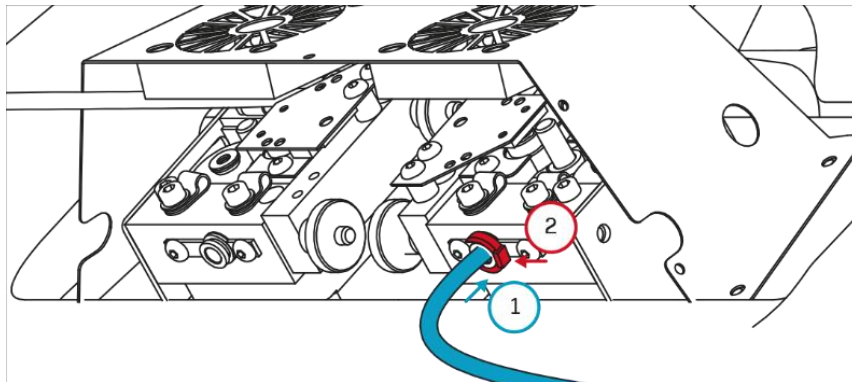

Fig. 71 Plugging in the bowden tubes to the T0 and T1 extruders
7. Plug in the bowden tubes to the T0 and T1 extruders (fig. 71). To do that:
- plug in bowden tube into the nipple (fig. 71, step 1). Make sure that bowden tube is pushed to the end (about 2 cm, until resistance is felt),
- put the collect clip on (fig. 71, step 2).